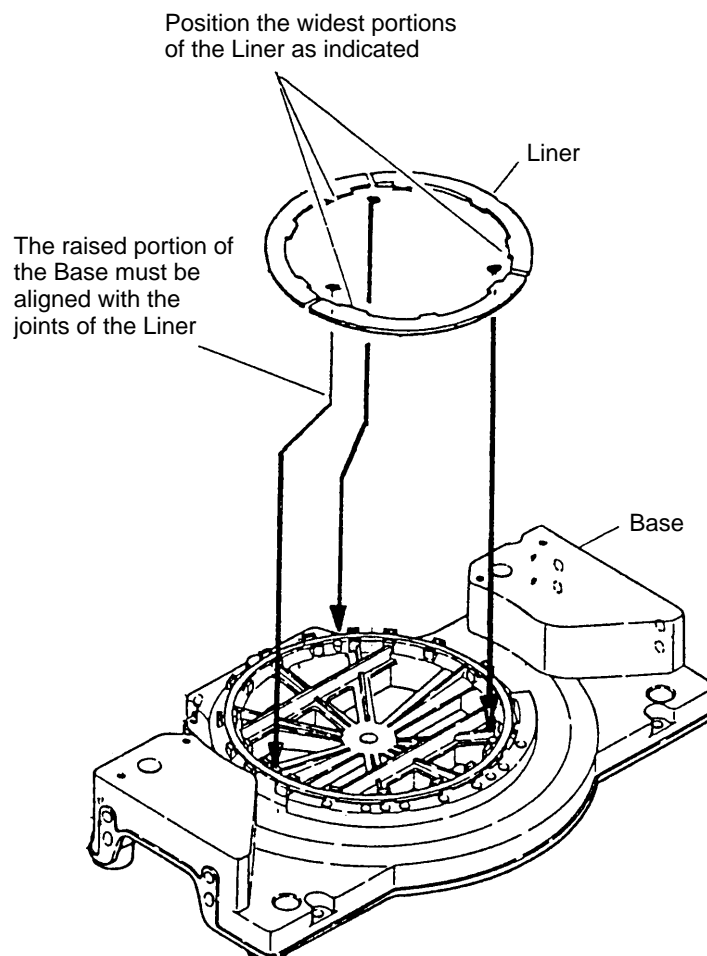

Fig. 1
- (1) Prior to reassembly, measure the insulation resistance of the Armature Assembly, Stator Assembly, Switch and other electrical components with a 500V DC Megohm Tester, and confirm that the insulation resistance of each part is more than 5 MΩ. If the insulation resistance of any component is less than 5 MΩ, that component must be replaced with a new one.
- (2) If the M12 Nut [40] and M12 Cap Nut [39] of the Hinge Shaft [42] are fastened too tightly, it will interfere with the smooth movement of the Gear Case [145]; if they are fastened too loosely, there will be excessive play and vibration between the Gear Case [145] and the Hinge [91] which will result in uneven and inefficient cutting. Carefully adjust the M12 Nut and M12 Cap Nut so that the Gear Case moves smoothly without excessive play or vibration.
- (3) If the M12 Nut [60] and M12 Cap Nut [59] of the Holder Shaft [70] are fastened too tightly, it will interfere with the smooth movement of Holder (A) [46], and will result in inefficient beveling of the saw blade. Carefully adjust the M12 Nut and M12 Cap Nut so that Holder (A) slides smoothly without excessive play or vibration.
- (4) When replacing the Spring [19], apply approximately 3 grams (.11 oz) of grease (Hitachi Motor Grease, Code No. 930035, is recommended) to the inner circumference of the new Spring prior to assembly.
- (5) When replacing or reassembling the Liner [74], ensure it is positioned and assembled as illustrated in Fig. 1. In addition, coat approximately 8 grams (.28 oz) of grease (Hitachi Motor Grease, Code No. 930035, is recommended) on the Liner sliding portion of the Turntable [71].